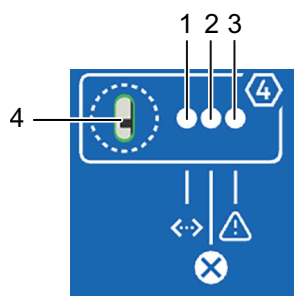

Fig. 10: Status LEDs and calibration switch, example for stream 4
- Measurement in progress (green), cf. fig. 10, no. 1
- Warning (yellow), cf. fig. 10, no. 2
- Alarm/error/fault (red), cf. fig. 10, no. 3
The calibration switch (cf. fig. 10, no. 4) is used to lock the official calibration settings that have been set for the corresponding stream. It can be moved up and down in a vertical direction by means of an additional tool and is secured with a calibration seal (lead seal) for official calibration applications.